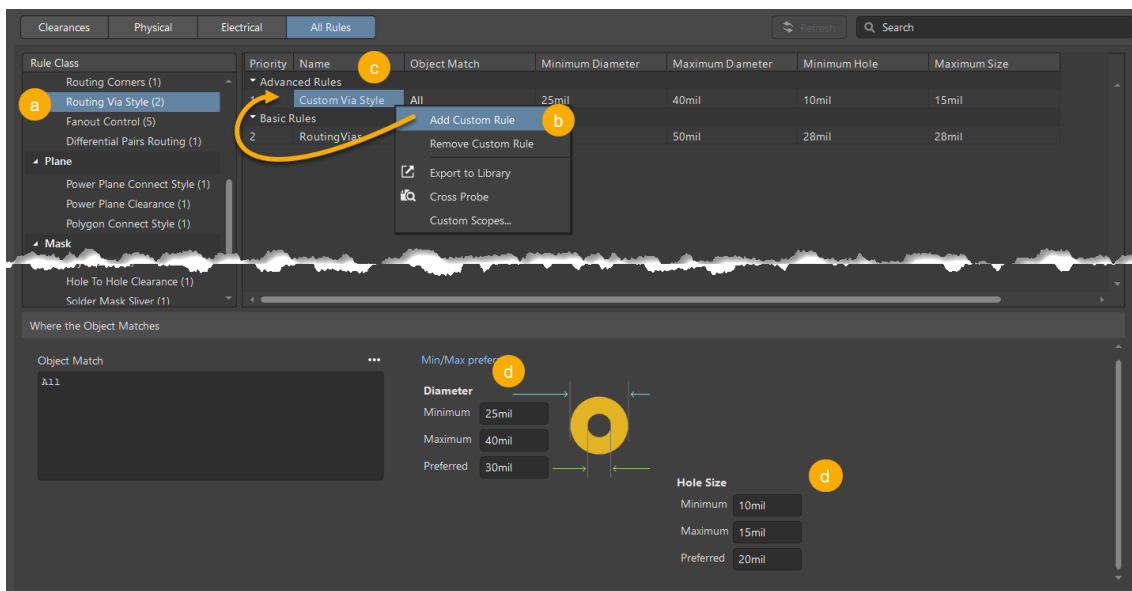

Figure 8. New Via Rule
24. Follow the steps shown in Figure 8 to create a new rule for the via style.